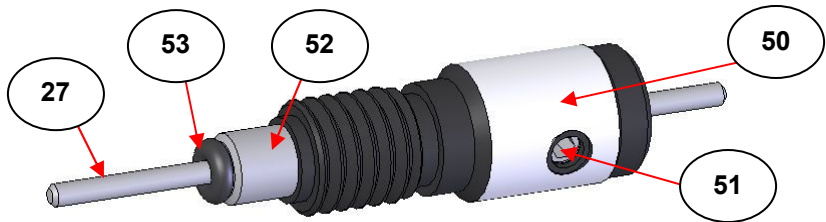

Fig 20. Screw Nut and Blanking Rod Fitting when removed from its Port Position on the VT Cell Accessory
- 8.2** The blanking rod (27) will need to be removed from the assembly seen in Fig 20. and is to be replaced with the monitoring thermocouple (49). Loosen the M3 x 3mm grub screw (51) using an appropriate Allen key, such that the rod (27), ferrule (52) and O-ring (53) can be slid out of the screw nut (50).